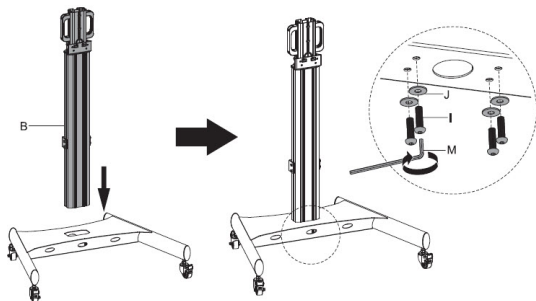

Figure 3
1. Insert the **Column (B)** into the **Base (A)**. (Figure 3)
2. Thread four **Washers (Large) (J)** onto four **M8 x 30 mm Screws (I)**.
3. Insert the four **M8 x 30 mm Screws (I)** through the bottom of the **Base (A)** and into the **Column (B)** and tighten, using the **5 mm Hex Key (M)**.